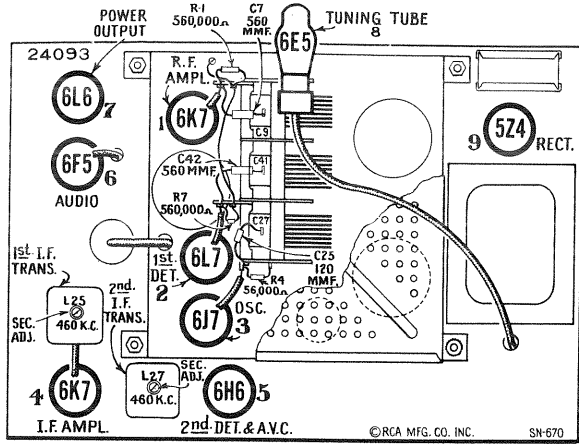

Figure 4—Radiotron and I-F Trimmer Locations
- (c) Adjust the two magnetite core screws L27 and L26 (see figures 4 and 11) of the second i-f transformer (one on top and one on bottom) to produce maximum vertical deflection of the oscillographic image. This adjustment places the transformer in exact resonance with the 460-kc signal.